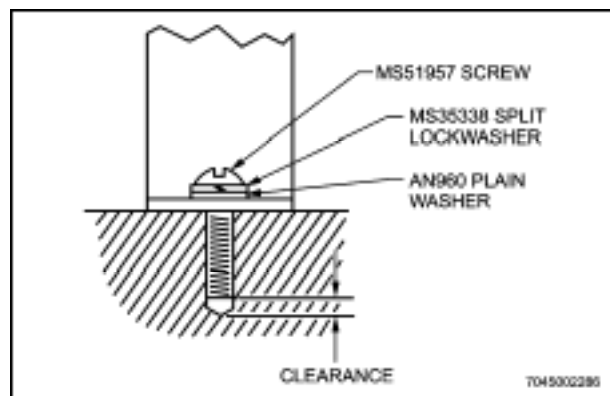

Figure 15-8 Determining Screw Length for Mounting into Blind Holes
34. When a protective device must be attached with a screw into a blind tapped hole, make sure that the screw will give maximum thread engagement without bottoming in the hole. The length is determined as follows (see Figure 15-8):